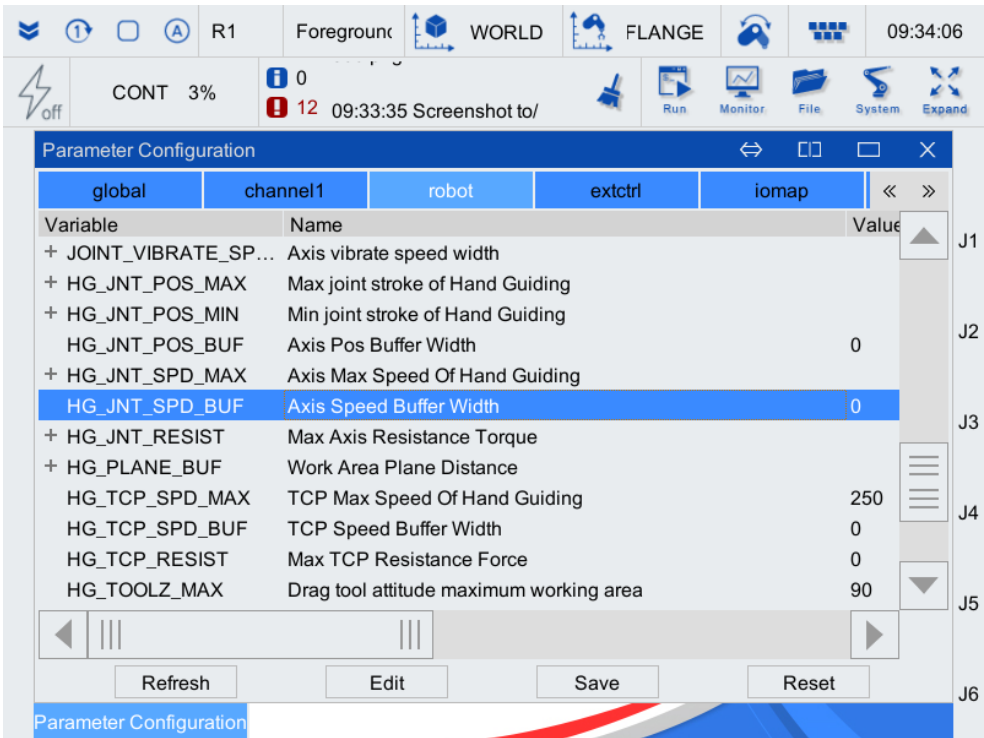

Figure 5-20 Axis speed buffer width parameter setting interface
Step3. Enter the parameter configuration interface, select the [robot] tab, as shown in Figure 5-20, click and select the row where [HG_JNT_SPD_BUF] is located, and click <Edit>.